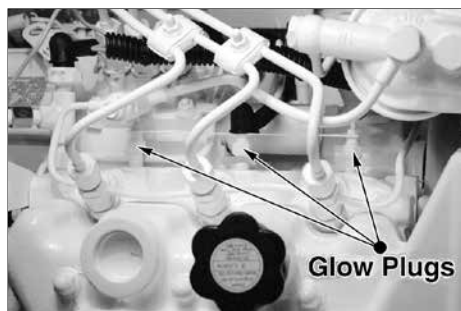

Figure 21: Glow plugs.
2. To check the glow plugs, loosen the current carrying flat wire between the plus-poles of the glow plugs (Figure 21). Connect a D.C. test bulb between the plus-pole of the battery and the plus-pole of the glow plug. If the bulb lights up, the glow plug is functioning properly.